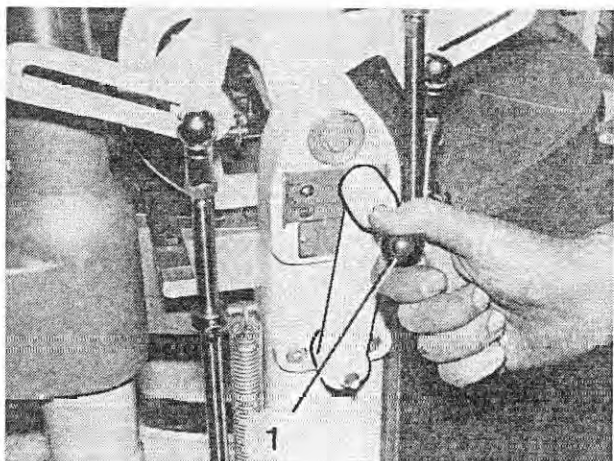

Fig. 112
7. Switch off the dosing unit, pulling out the index pin (Figure 112/1) and setting the lever to position „0“.